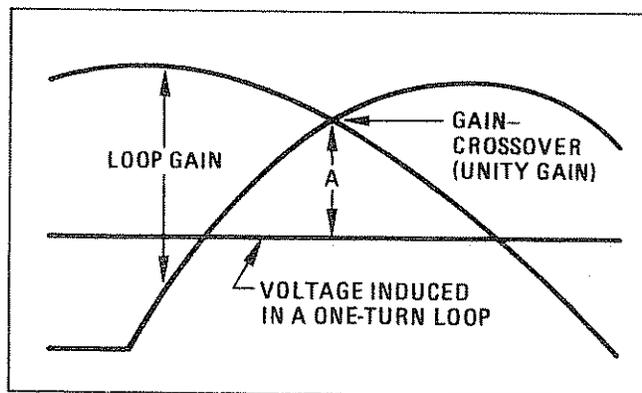

Figure 5-10. Spectrum Analyzer Display of Phase Locked Loop Gain
6. Press the single sweep key. Check that the gain-crossover frequency is 20 ± 2 kHz. If the gain-crossover frequency is not correct, A3A9A4R20 must be changed to set the correct frequency; otherwise, this adjustment is complete. See Figure 5-10.